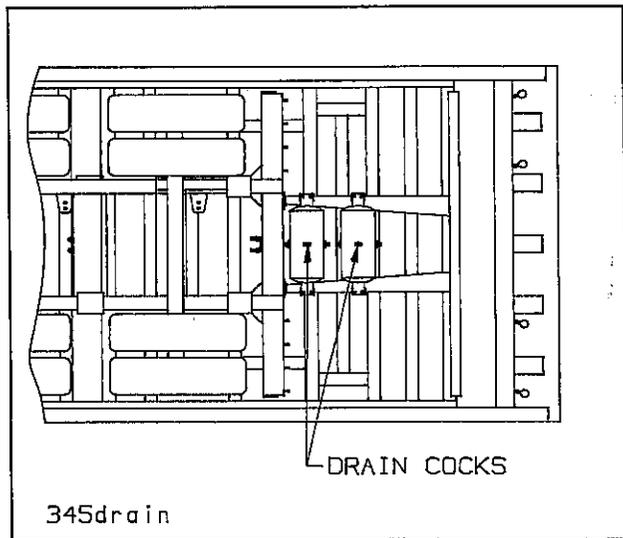

Figure 4-6 Drain Cock Locations
d. Drain air reservoir daily. A drain cock on the bottom of each air reservoir vents the tank to drain collected water and oil. If held open, air pressure in the tanks is relieved, causing the emergency or parking brakes to be applied (See Figure 4-6).